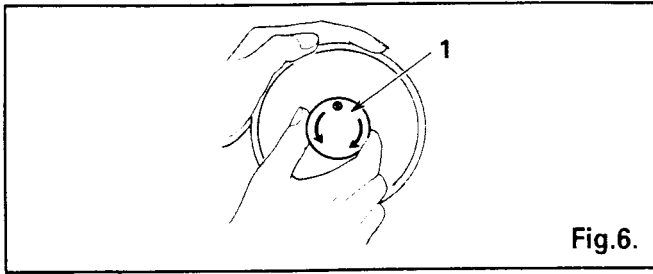

Fig. 6.
1. Stop motion of needle by loosening stop-motion screw (1), Fig. 6. Hold hand wheel with left hand and turn stop-motion screw toward you with right hand.